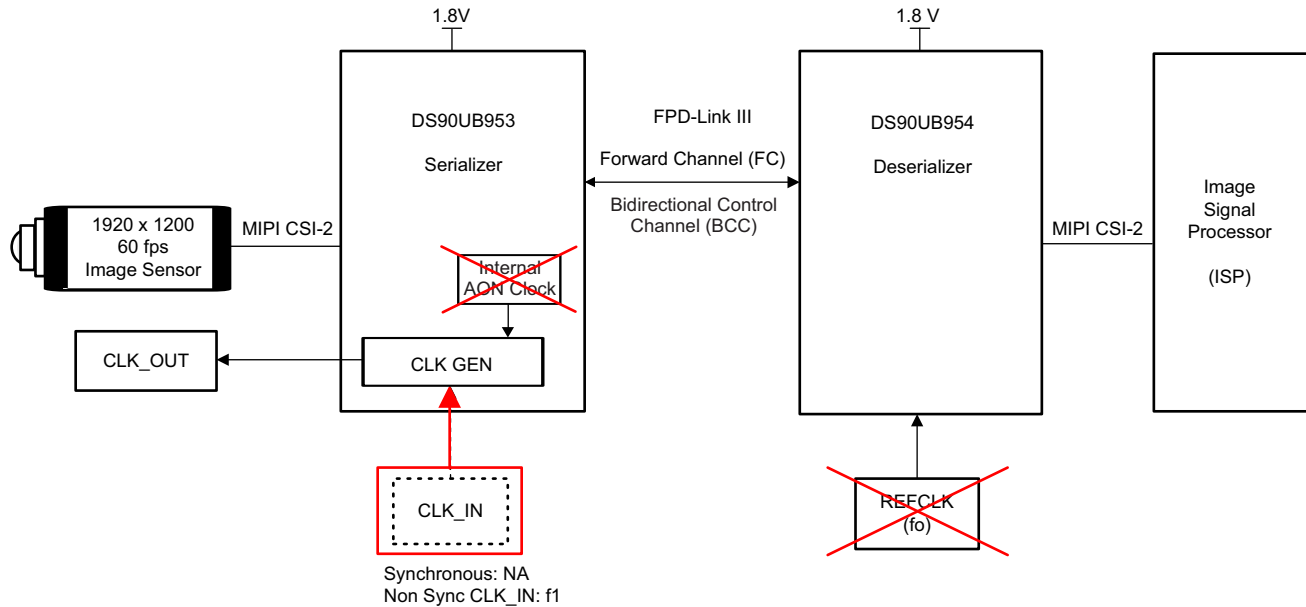

Figure 5. Illustration of Non-Synchronous Mode With External Oscillator
The second mode, non-synchronous CLK_IN, uses an external oscillator as a reference and generates the required clock for the FPD forward channel for that reference. Referring to Figure 5, the external clock must be fed into the CLK_IN pin (20) on the 953, running at a constant rate (f_1) proportional to the REFCLK (f_0), and a BC rate is then programmed to be less than or equal to 10 Mbps. Register 0x05, GENERAL_CFG, on the 953 holds parameters for the PLL clock control. Bits [6:4] of this register control the CLKIN divider. The CLKIN Divider can be divided by 1 or 2 by assigning these bits to 0b000 or 0b001, respectively. This division must be accounted for when calculating the FC rate which is shown in Table 5.